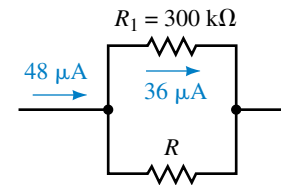

FIGURE 6-79
34. Use the current divider rule to determine the unknown resistance in the network of Figure 6-79.